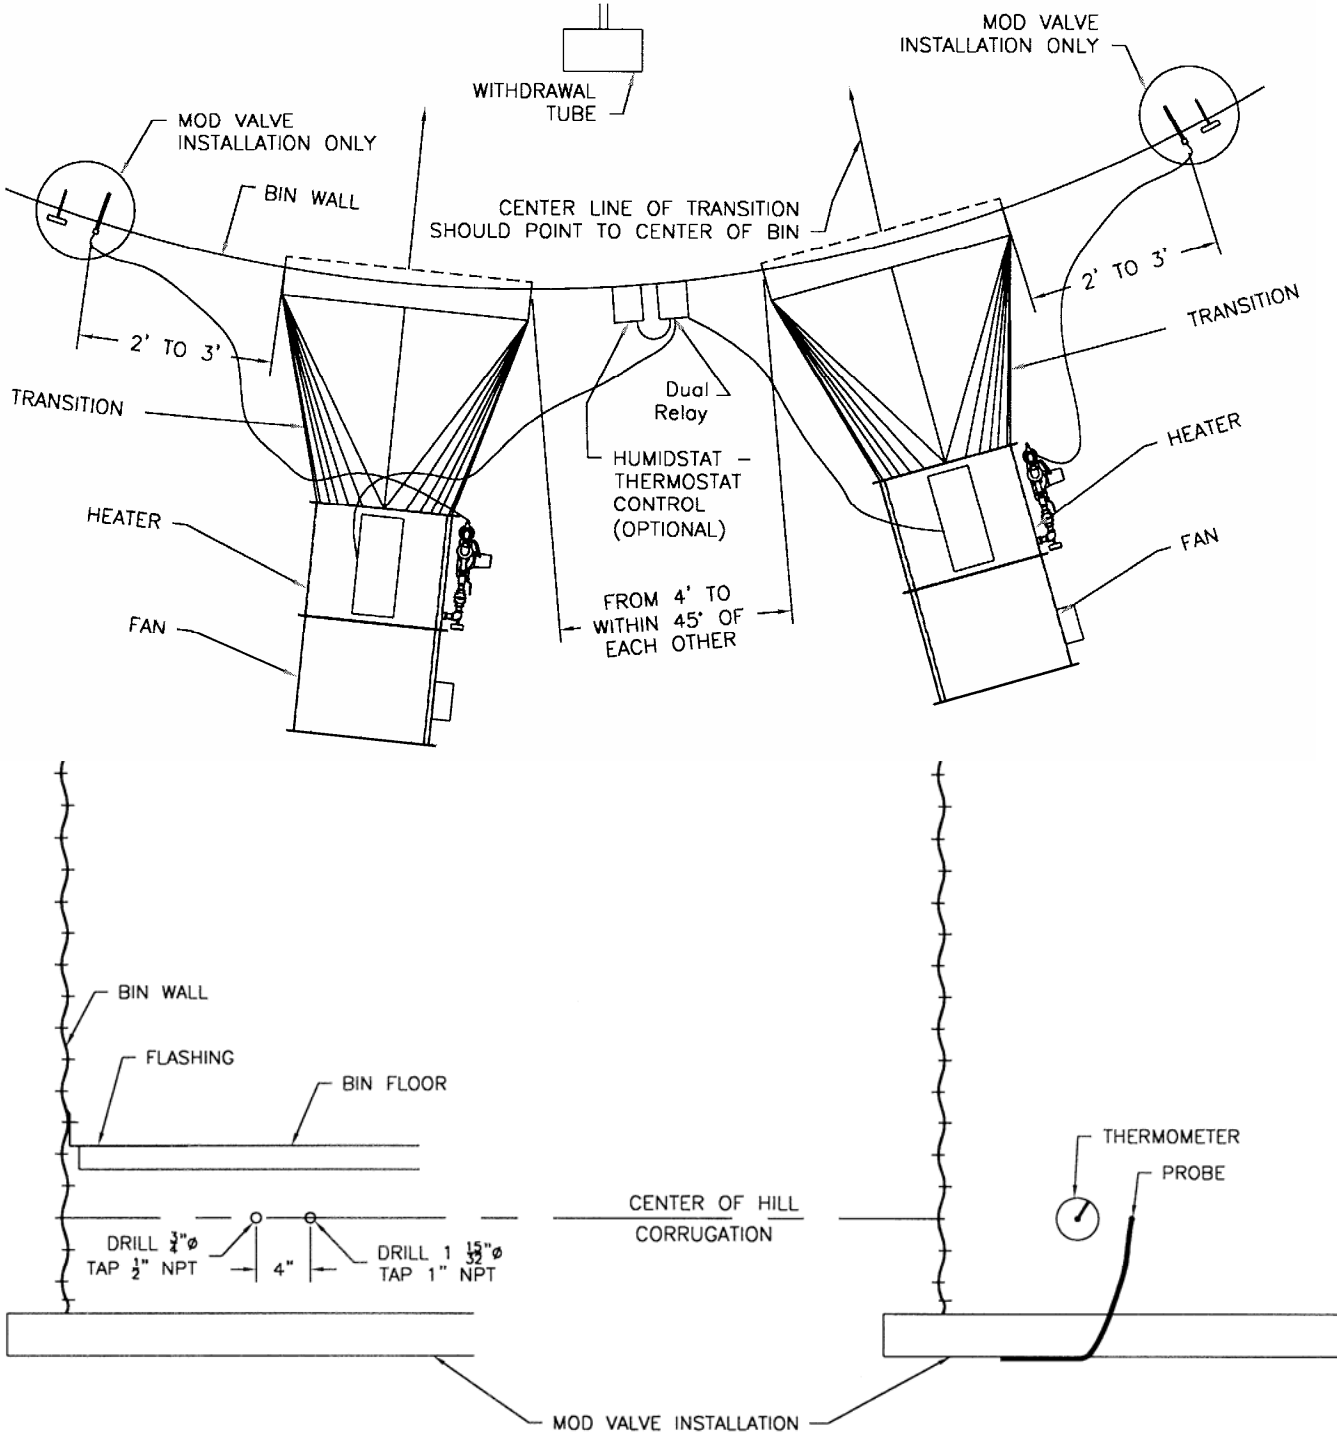

Figure 5. Typical Installation of Two Drying Units and Optional Plenum Controls
- B. If two drying units are used on the same bin (**Figure 5**), locate them from 4' to within 45° of each other and centered opposite the withdrawal tube. Locate any humidistat or thermostat control between the two heater units, making sure control senses heat from both units (order kit #735035.)